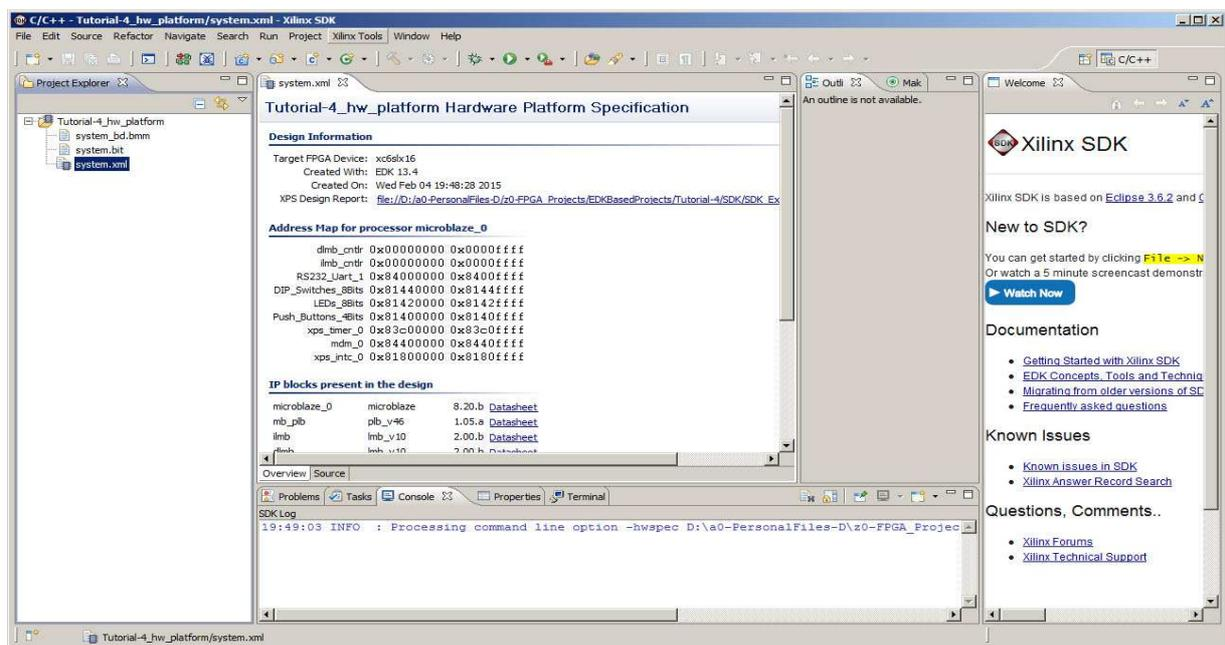

Figure 18. SDK Main Window (Step 3)
**Step 3:** The SDK main window will start then as shown in **Figure 18**. The SDK IDE development area is divided into several areas. The left-hand side is the Project Explorer window which shows one project “mydesign\_hw\_platform” which represents the hardware created in part one. You will notice it includes the file “system.bit”. The middle area is the code area. By default the file “system.xml” which lists the components of the system and information about each of them.